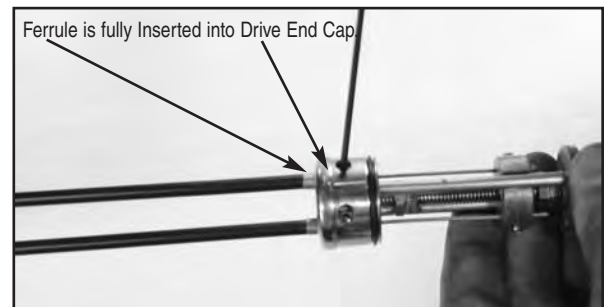

Figure 10
3. From bottom of Actuator Guide, gently insert wire end of cable until Ferrule of Sheath is fully inserted into Drive End Cap and Wire is guided through Position Nut. Tighten Set Screw (b). ($3/32''$ Allen Wrench) Figure 10 and 11